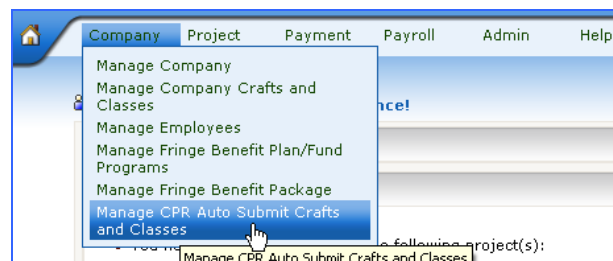

Figure 70- Select Manage CPR Auto Submit Craft and Classes
- From the Company Menu, select “Manage CPR Auto Submit Crafts and Classes,” Figure 70.